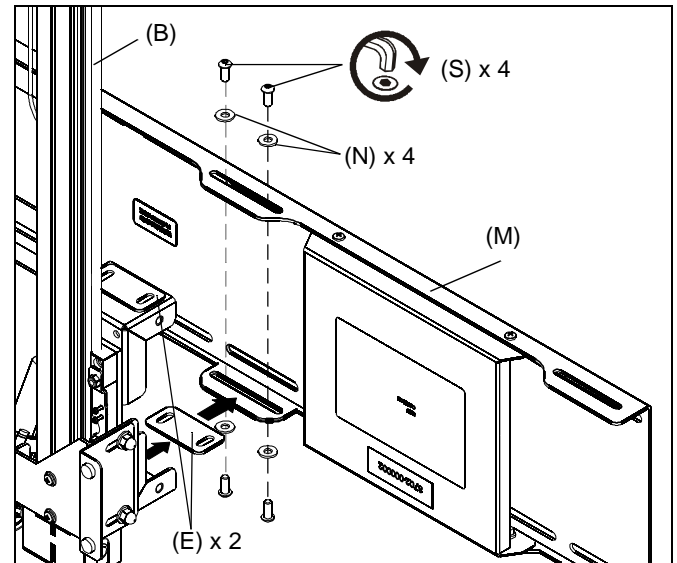

Figure 10
1. Add two spacer brackets (E) to the wallplate assembly (M). (See Figure 10)
2. Attach the actuator assembly (B) to the wallplate assembly (M) using four 1/4-20 x 5/8" buttonhead cap screws (S) and four 1/4" flat washers (N). (See Figure 10)